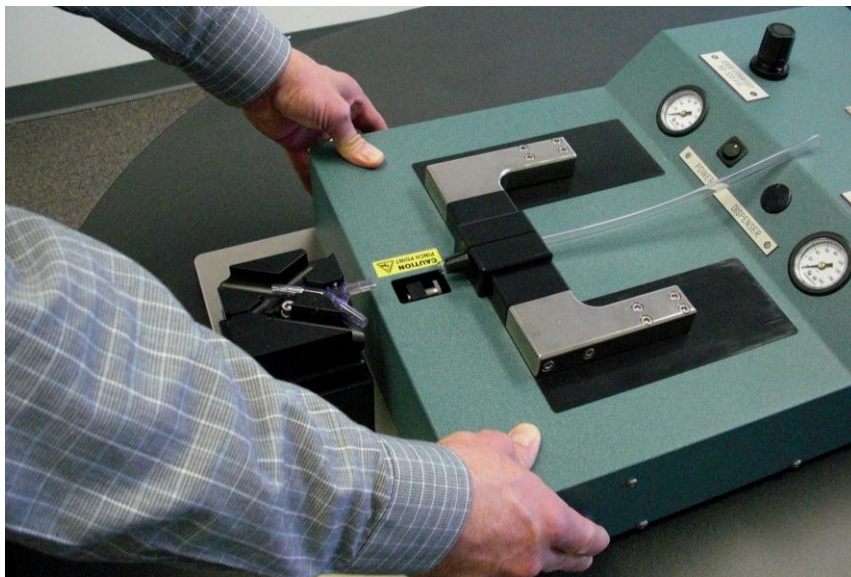

Figure 7: Machine cycle start
- Use the palm switches to start cycle: jaws close and stop gate retracts. Tubing comes forward onto barb. (Figure 7)